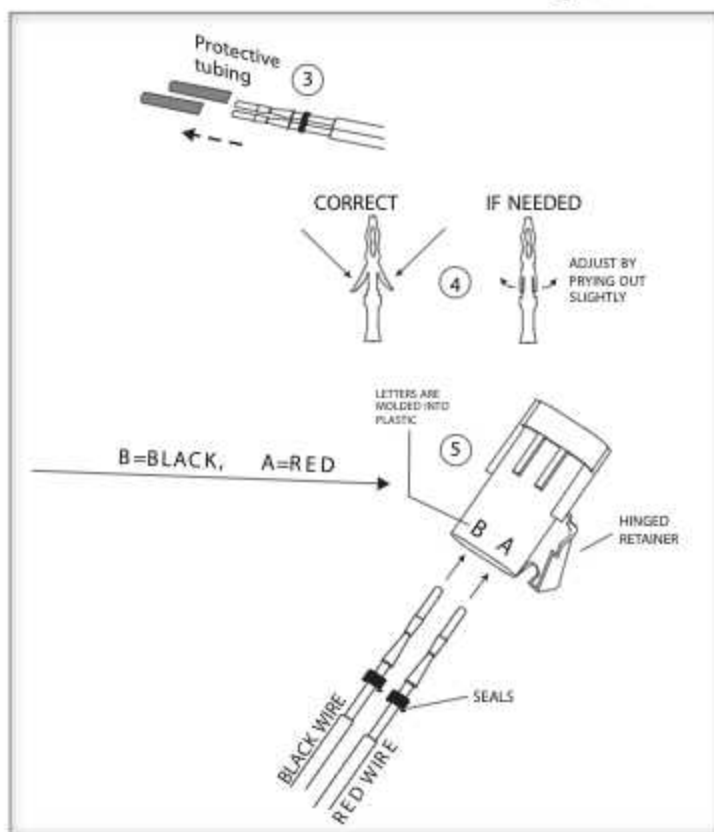

Figure 18-2
6. Flip open end connector's jigned retainer, insert pins as shown. [Figure 18-2]